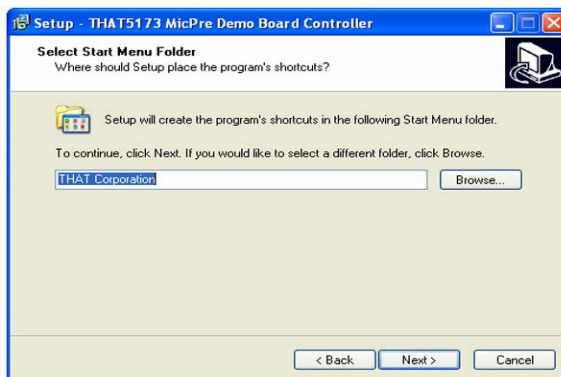

Figure 7. Selecting the start menu folder
6. Next, Windows asks where it should put the Shortcut icons for the GUI (Figure 7). If you agree with our recommendation, just click NEXT. Otherwise, change this setting to what you want and then click NEXT.